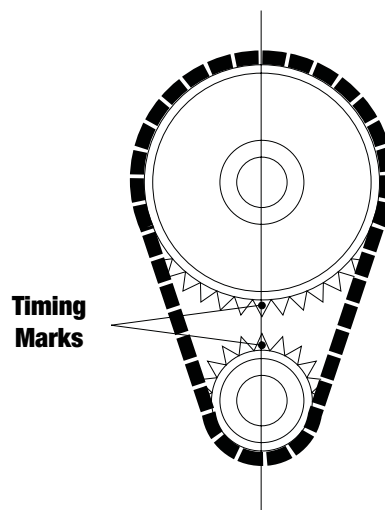

Figure 2 - Timing Chain Sprocket Alignment
PUSHRODS AND ROCKER ARMS: High performance pushrods and rocker arms and studs are recommended for this installation. After the cam is installed and timed correctly (**See Figure 2**), it will be necessary to check each pushrod for correct lifter preload.
17. Rotate engine until timing marks are aligned (**See Fig. 2**).
4. Line up camshaft with timing marks aligned (**See Fig. 2**).